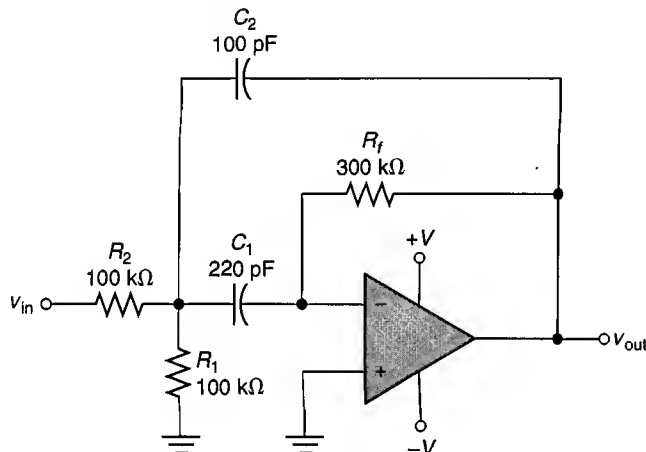

FIGURE 17.52
17. Calculate the values of f_{C1} , f_{C2} , bandwidth, geometric center frequency, and Q for the band-pass filter in Figure 17.52.
21. Calculate the value of A_{CL} for the filter in Figure 17.52.